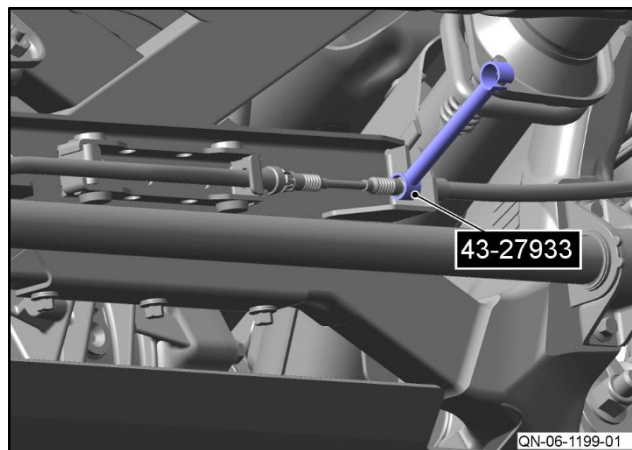

Figure 4
5. Use the special tool to compress the ring clip on the park brake cable (refer to Figure 4).